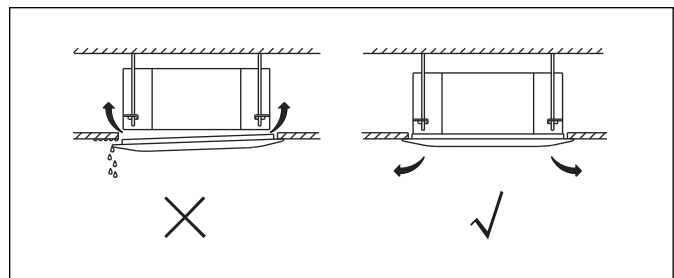

Figure 48
- ▶ After installing the decorative panel, ensure that there is no space between the unit body and decorative panel. Otherwise air may leak through the gap and cause dewdrop. (See figure 48 below)